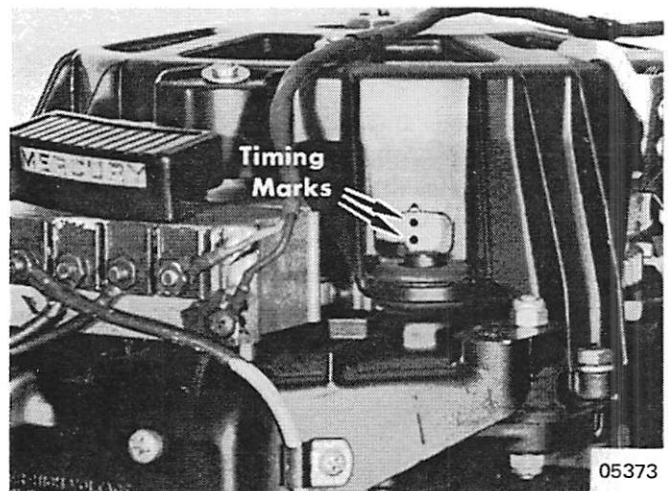
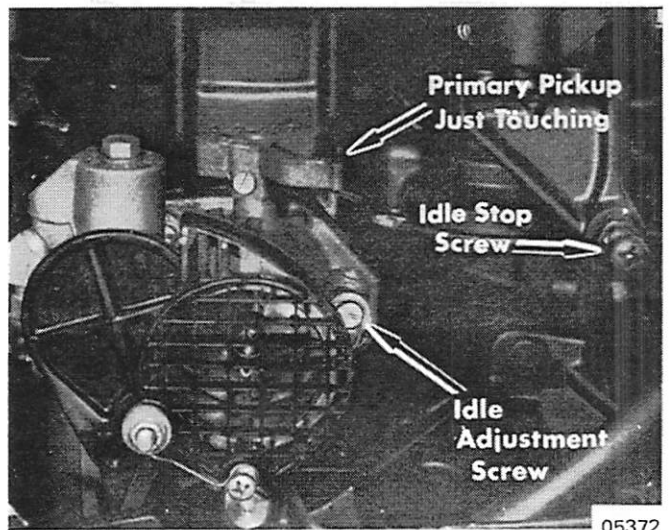

Figure 3. Primary Timing Marks Aligned
Figure 4. Primary Pickup and Idle Adjustment
5. With engine running, align flywheel timing mark (2 white dots) in timing window. (Figure 3) Loosen 2 screws on carburetor pickup plate and slide plate so that cam just touches primary pickup arm on carburetor cluster. (Figure 4) Tighten 2 screws.